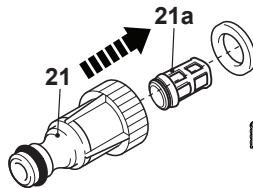

Fig. 26-1
2. Unscrew and remove the water inlet hose adaptor with water filter (21) from the water inlet (6).
3. Disassemble the water inlet hose adaptor with water filter (21) (Fig. 26-1).